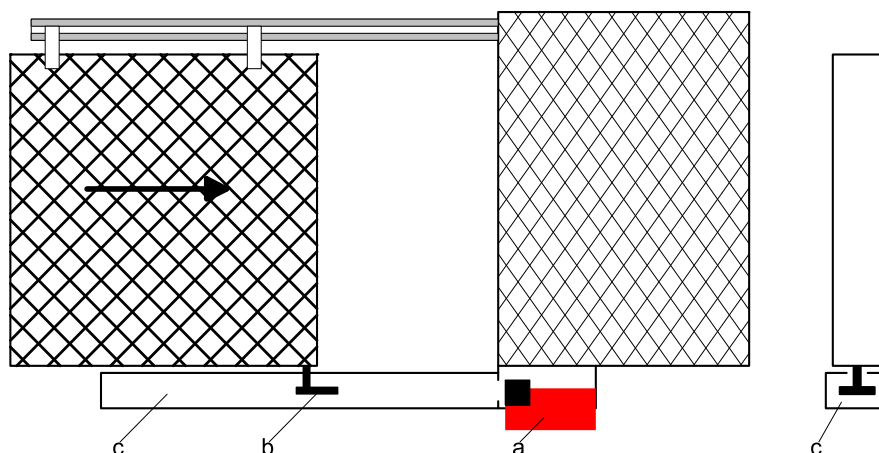

Fig. 8 Mounting example: „increased protection“
- A concealed installation can hinder the insertion of “substitute actuators” and at the same time provide *increased protection* against damage (see Fig. 8).